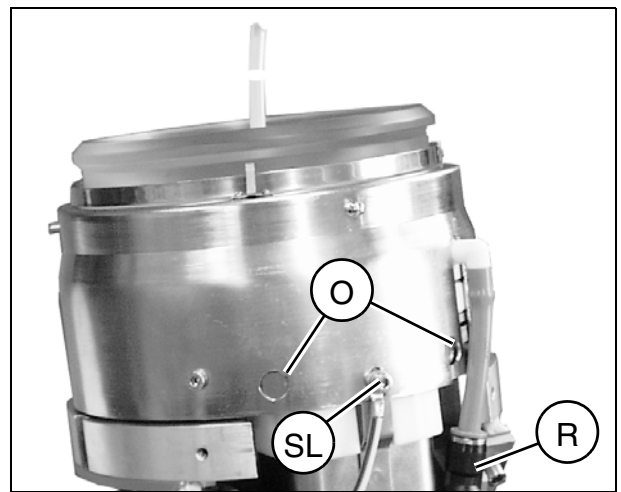

Fig. 7
- Remove the screw (SL/Fig. 7) with the protective conductor on the shock wave head.
- **Wait at least 10 minutes after switching the system off. Then push the high-voltage connector downward, until the openings (O/Fig. 7) are free.**
- Loosen the Allen screws in the openings (O/Fig. 7) but do not remove them.
- Install the new shock wave head from above and insert the water hoses; when doing this ensure that **the hose marked in red (R/ Fig. 7) is located next to the high-voltage connector and that the air suction hose underneath the shock wave head is neither kinked nor caught in the shock wave head.**
- Attach the shock wave head with the Allen screws (O/ Fig. 7) visible through the opening.
- Push the high-voltage plug as far up as possible, until the openings (O/ Fig. 7) are covered again.
- Reattach the screw (SL/ Fig. 7) with the protective conductor.